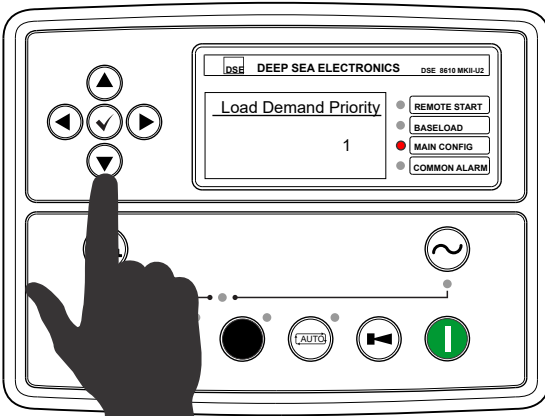

Figure 78. Load Priority Page
- Using the down arrow button scroll down to the **load demand priority** page (Figure 78).
- On generator #1 (master) set the priority to 1 (Figure 78). On generator #2 set the priority to 2. Repeat this procedure for all the remaining generators.